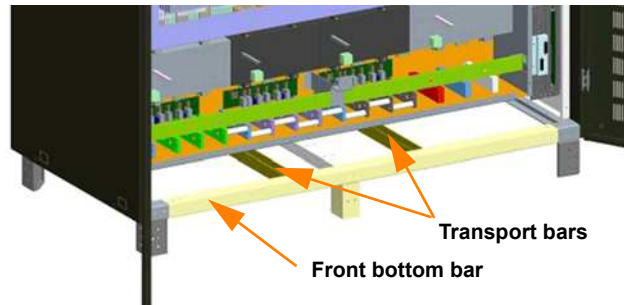

Figure 3.11
2. After the UPS cabinet has been moved to its final position, remove and discard the two transport bars – shown in Figure 3.11.